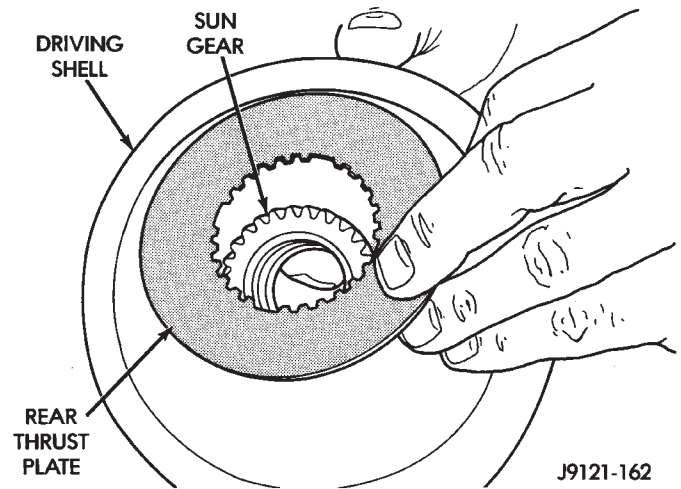

Fig. 157 Installing Driving Shell Rear Thrust Plate
(9) Hold sun gear in place and install thrust plate over sun gear at rear of driving shell (Fig. 157).